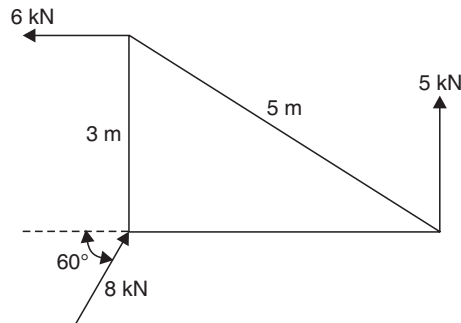

Fig. 3.59
7. Find the equilibrant of the system of forces in magnitude and direction as shown in Fig. 3.59.